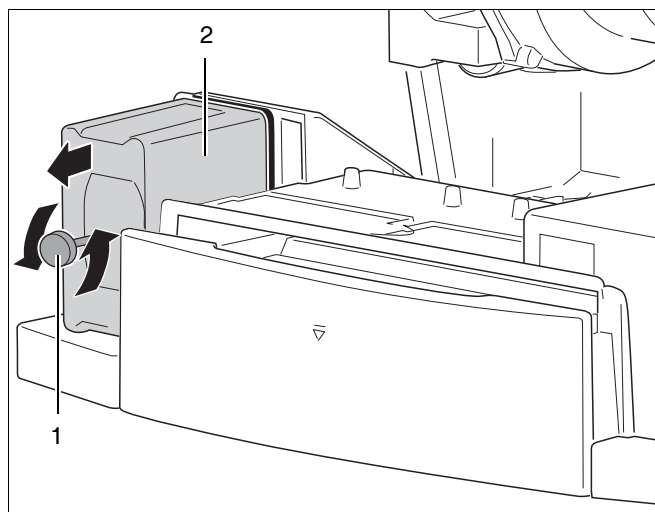

fig. 21 Dismantling the UBA 3
- Loosen the fastening screw of the UBA 3 (see fig. 21, pos. 1).
- Remove the UBA 3 by pulling it forward as indicated by the arrow (see fig. 21, pos. 2).